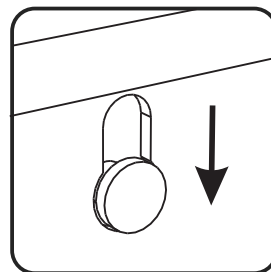

Figure 3
Attach Box (I) to unit by inserting hook in side panel into hole in Box (I). (See Figure 3)